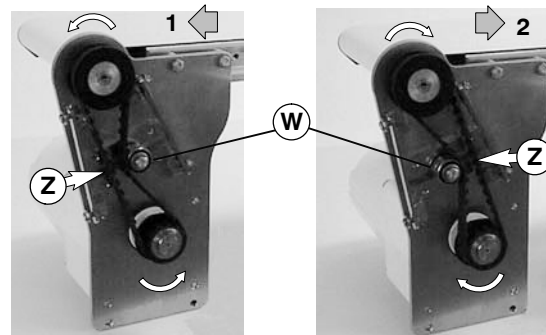

Figure 22
5. Depending on conveyor belt travel (direction 1 or 2 of Figure 22), locate timing belt tensioner (W) as shown. Tension timing belt to obtain 0.125" (3 mm) deflection for 1.0 lb (456 grams) of force at timing belt mid-point (Z). Tighten tensioner screw to 92 in-lb (10.4 Nm).